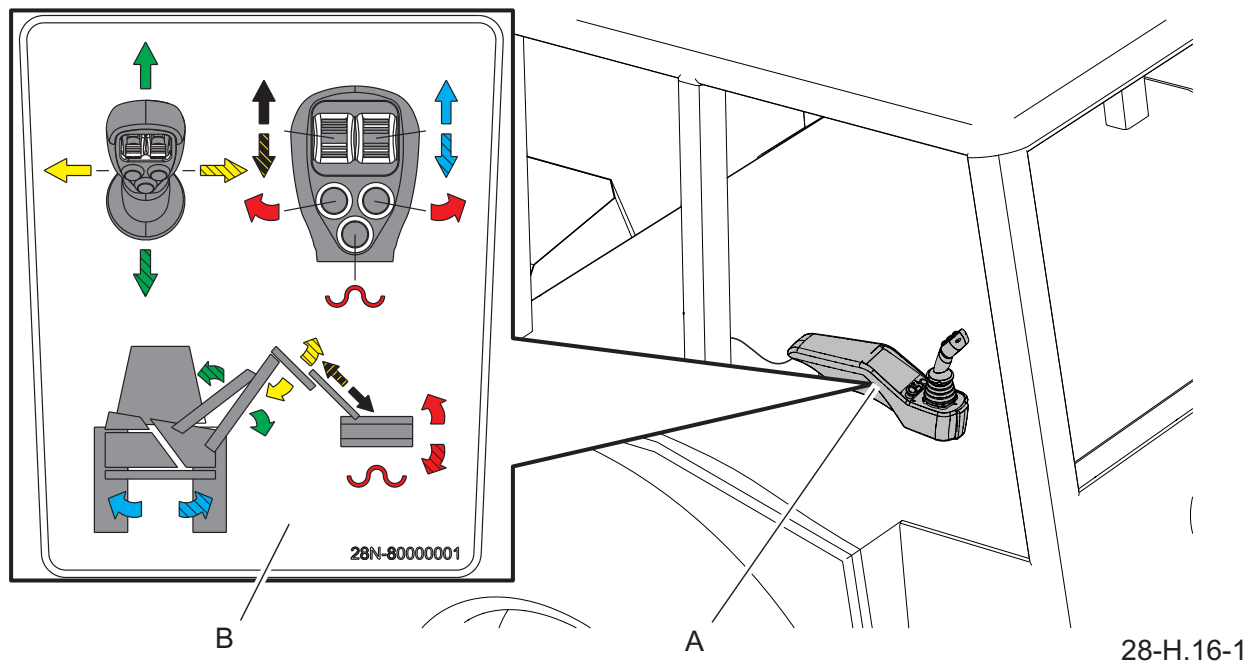

Figure 4.4 The control panel with joystick of the WWT804T multifunction arm in the carrier vehicle (agricultural tractor) cab with a pictogram.
- Mount the control panel and joystick (A) (FIGURE 4.4) of WWT804T multifunction arm inside the carrier
weakening the protective structure of the carrier vehicle (tractor). Connect the plug of the control panel's wiring harness (A) (FIGURE 4.4) to the connection socket (4) of the multifunction arm's electrohydraulic system.